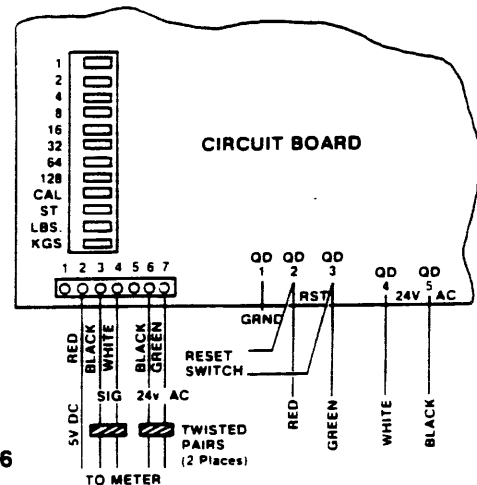

Fig. 6
3. Connect the black and white wire of the 510220 Cable to the terminals marked "24V AC" (See Fig. 6, QD4 and QD5) on the EWM board.
4. Connect the red and green wire to the terminals labeled "RST" for Reset. (See Fig. 6, QD2 and QD3)
5. Connect the meter to the EWM Board as per Figs. 6 and 7.